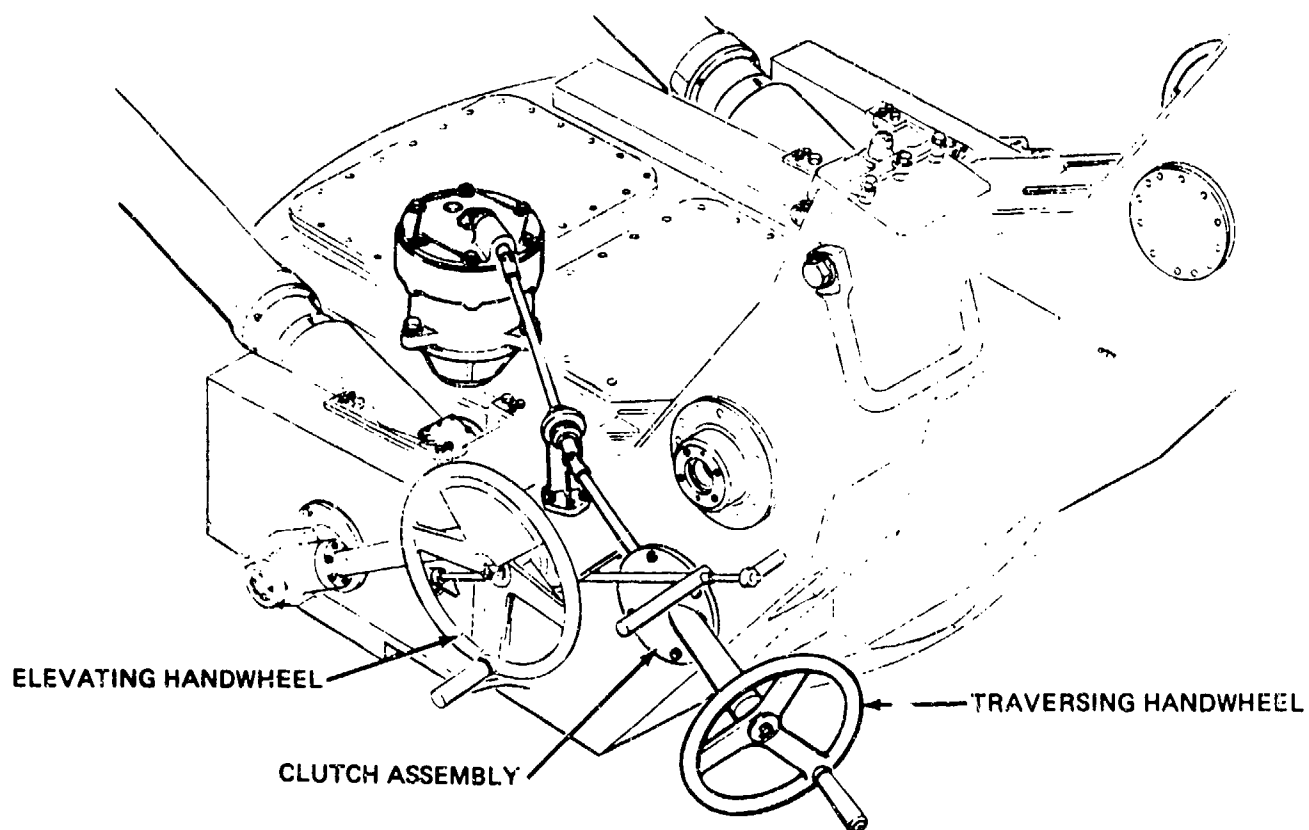

Figure 6-7. Traversing mechanism assembly.
*b. Traversing mechanism.* The traversing mechanism (fig 6-7) controls the movement of the weapon in azimuth and is the angular drive type. One turn of the traversing hand wheel moves the tube left or right approximately 10 mils.